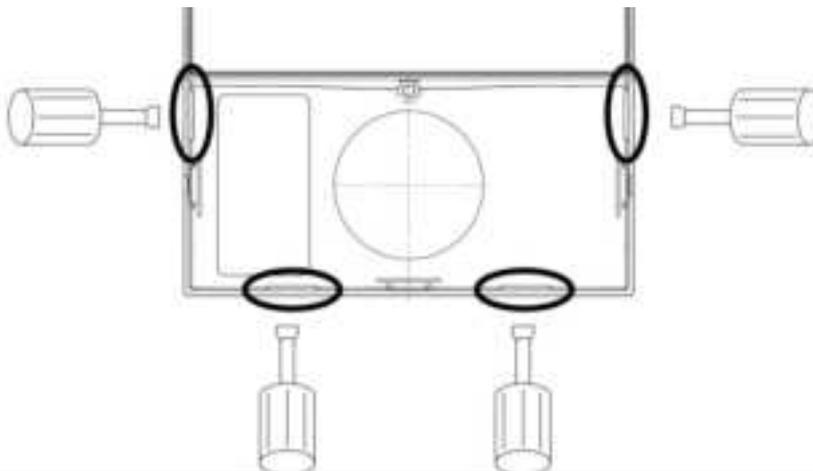

Figure 3.11 - Opening the housing - Step 3
- ▶ On the four slots in the front part as indicated in Figure 3.11, press the edges outwards so that the tabs underneath release, and remove the front part from the rear part.